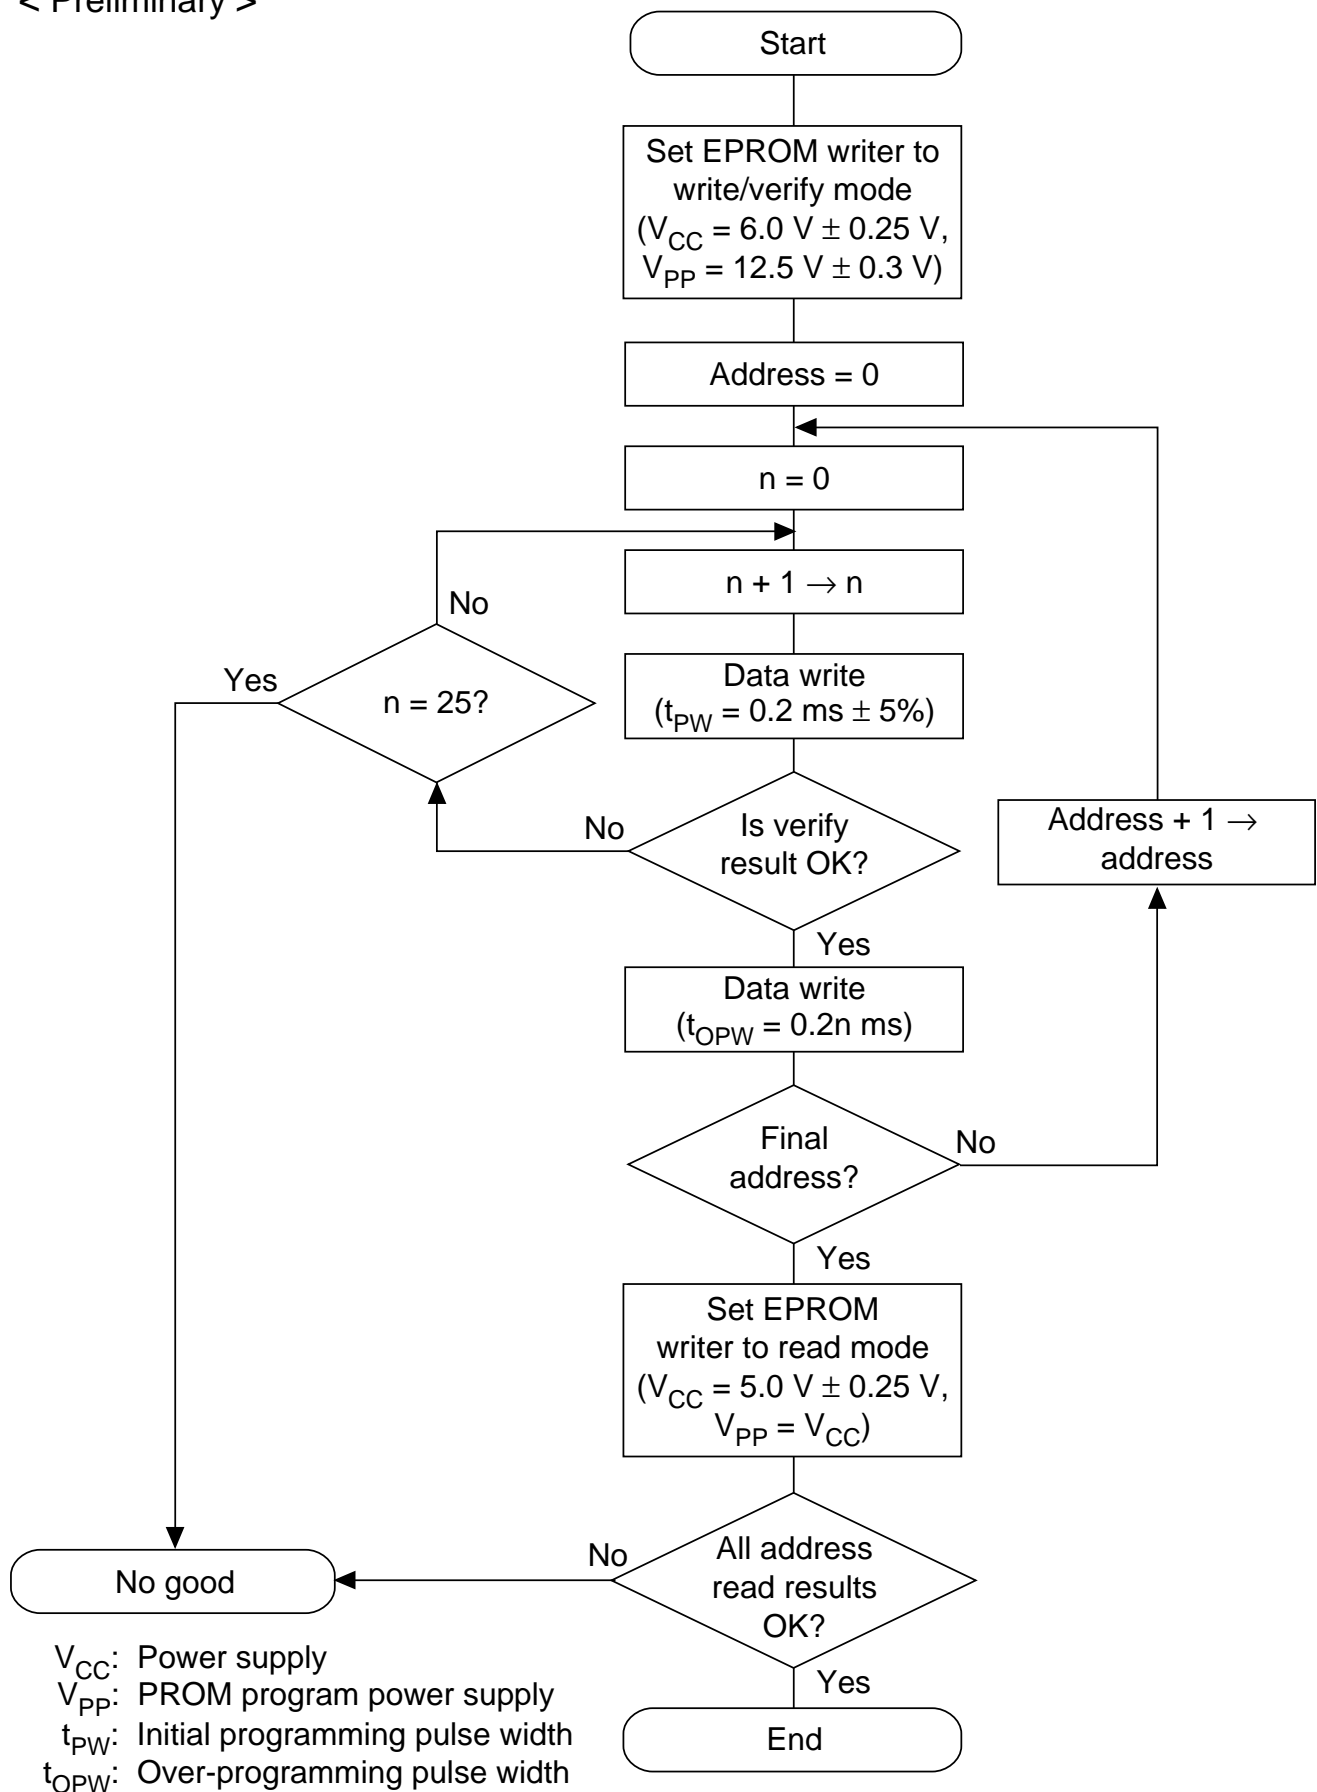

Figure 21.6 High-Speed, High-Reliability Programming Basic Flow
Write/Verify: Writing and verification can be done using an efficient high speed, high reliability programming format. This format allows data writing that is both fast and reliable without applying voltage stress to the device. Figure 21.6 shows the basic flow of the high speed, high reliability programming format.
| Address setup time | t_{AS} | 2 | — | — | μs | Figure 21.6* ¹ |
*3 t_{OPW} is defined by the values noted in the flowchart (figure 21.6).